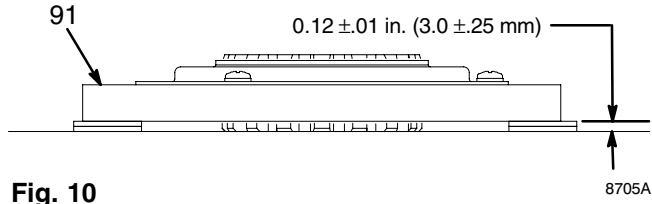

Fig. 10
1. Fig. 10. Lay two stacks of two dimes on smooth bench surface.
2. Lay armature (91) on two stacks of dimes.
4. Install armature (91) on engine drive shaft.
5. Install four screws (53) and lockwashers (50) with torque of 125 in-lb.